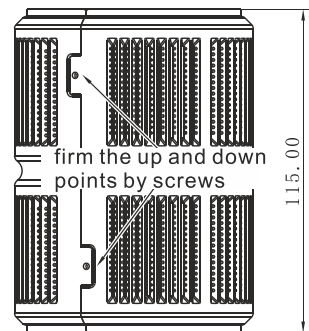

fig.4-8
3. Open the filter net, cover the part a (water inlet), close up the filter net, firm the two up and down points by screws, fig. 4-8.